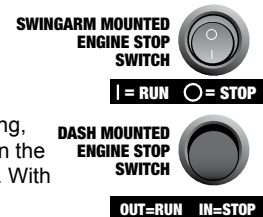

fig. F1
F. Engine Stop Switch (see fig. F1)